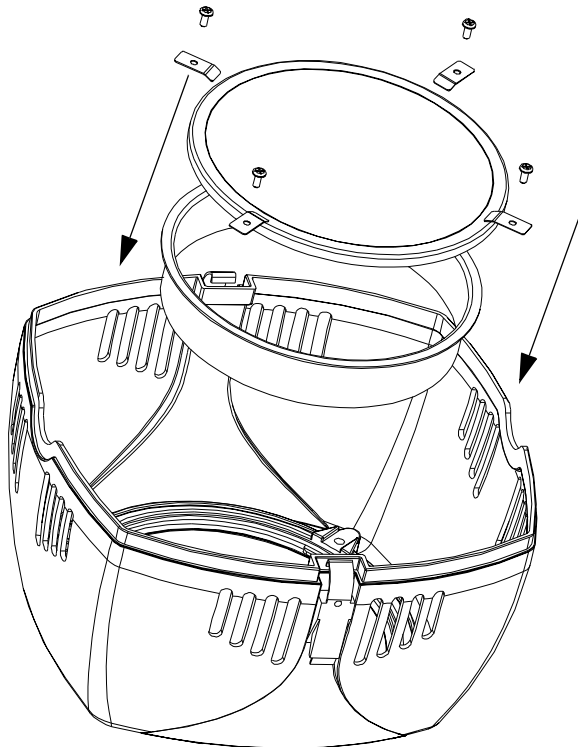

Figure B.8. Installing the Light Snoot (Exploded View)
6. Place the light snoot under the four securing clips with the lip pointing outwards and replace the lens. Refer to Figure B.8.